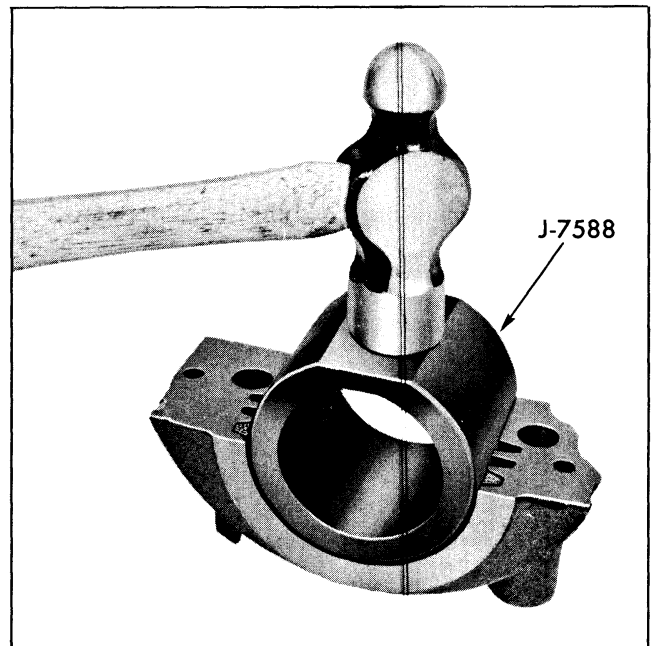

Fig. 6-57 Compressing Upper Seal in Bearing Cap with J-7588
- a. First install seal in cap and compress seal using hammer and seal compressor J-7588 (Fig. 6-57).
2. Install a new seal in rear main bearing cap, using tool J-7588 to pack seal tightly. Be sure to pack seal tightly into groove and trim flush with cap (Fig. 6-57).